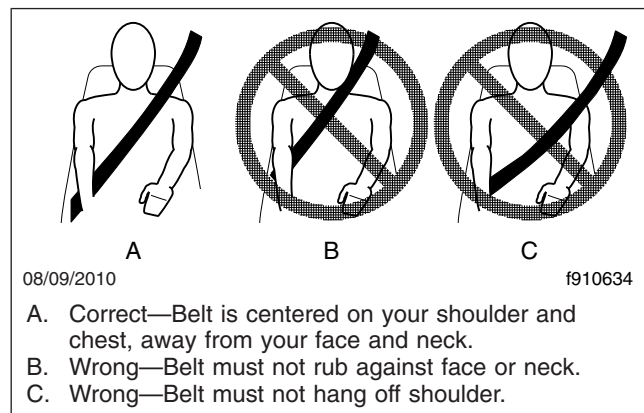

Fig. 7.10, Proper Shoulder Strap Fit
5. Position the shoulder strap diagonally across your chest with the adjustable D-loop bracket (if equipped). The shoulder strap must be centered on your shoulder and chest, away from your face and neck. See **Fig. 7.10**. If desired, engage the Komfort Latch or Sliding Komfort Latch as follows.